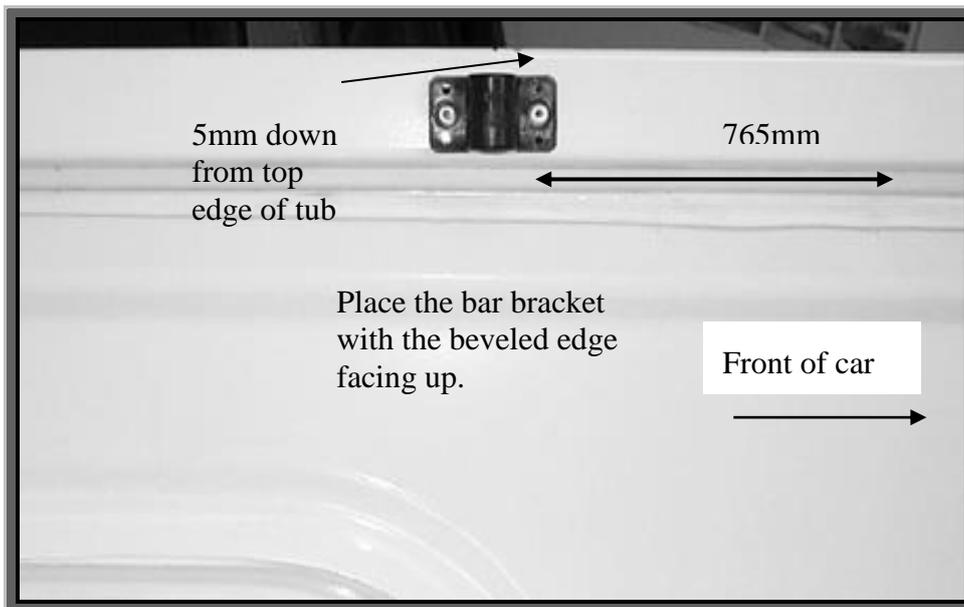

Figure 2
- STEP 6** To fit the bar brackets, measure 765mm back from the inside front edge at the top of the tub and place them as shown in Figure 2. (5mm down from top edge of tub) Drill and rivet using two large rivets for each Bar Bracket. Install the support bar .